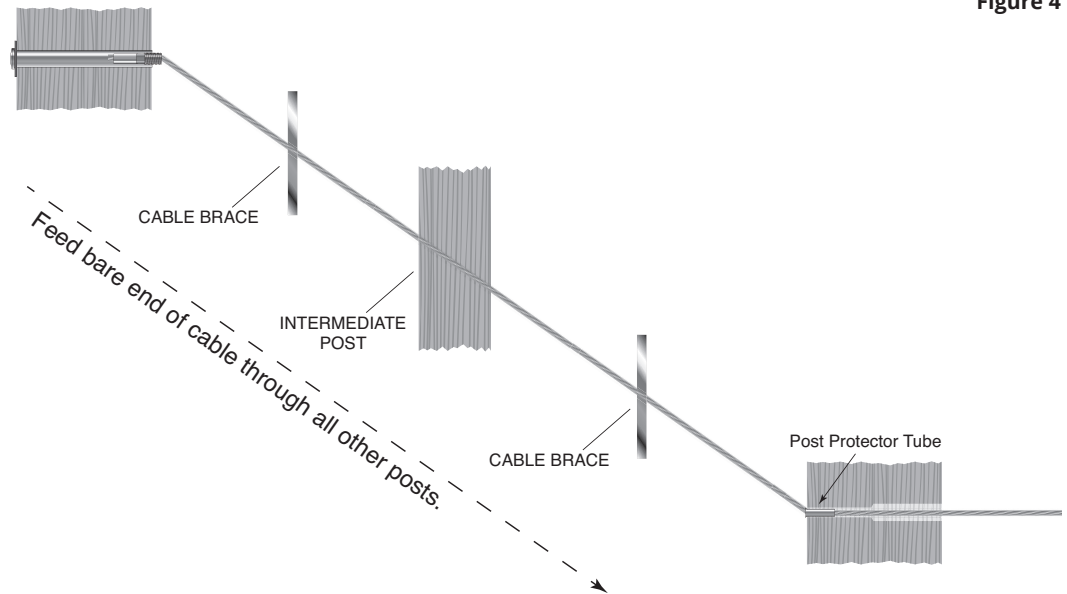

Figure 4
2. Pass bare end of cable through intermediate post(s), insert through Post Protector Tube, and pass through post. (Figure 4)